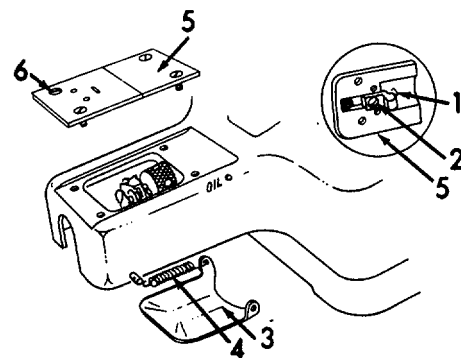

Figure 6-150.
- (8) Refer to Figure 6-150. Install guide block (1) and screw (2).
- (9) Install finger guard (3) and two springs (4).
- (10) Install needle plate (5) and four screws (6).